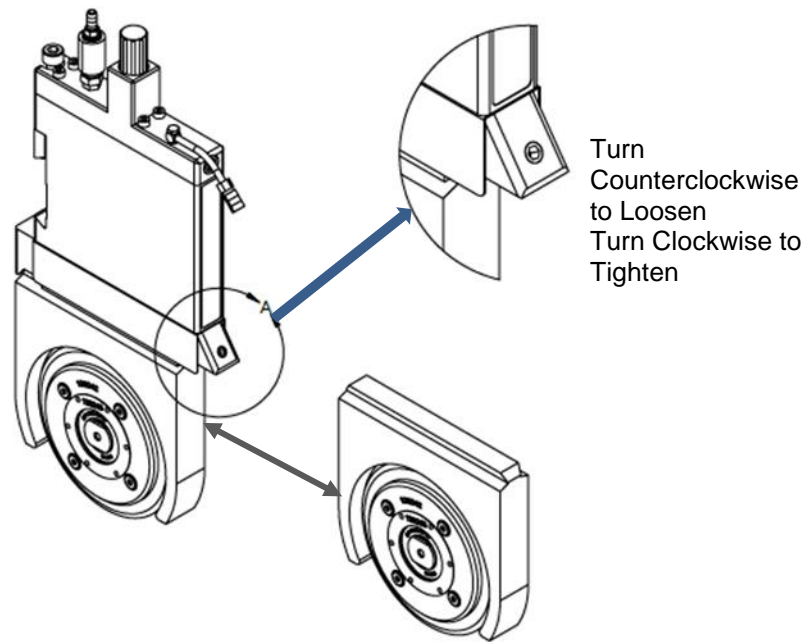

Figure 4 – Cartridge Removal and Installation
- 1) Remove the cartridge assembly from the control body (as shown in Figure 4 and Section 5.1 on previous page).
- 9) Reinstall the cartridge onto the control body (as shown in Figure 4 and Section 5.1).